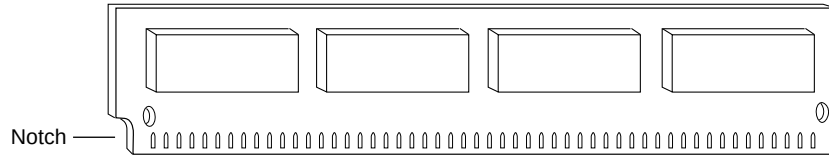

Figure 2-4. Location of SIMM Connector Guide Notch
4. As you remove the SIMM, note the location and orientation of the SIMM guide notch on one end of the SIMM connector edge (Figure 2-4).